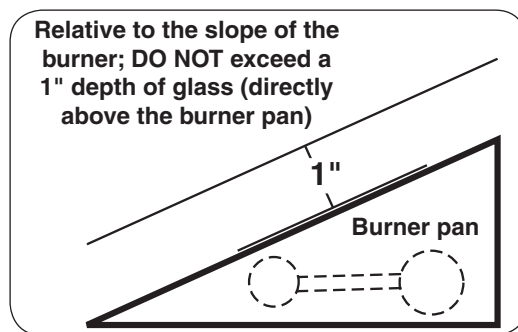

Fig. 8-4
1. Pour the glass / gems directly on top of the granules and screen so that the burner pan is covered completely and evenly. Relative to the slope of the burner; DO NOT exceed a 1" depth of glass (directly above the burner pan) as shown in Fig. 8-4.